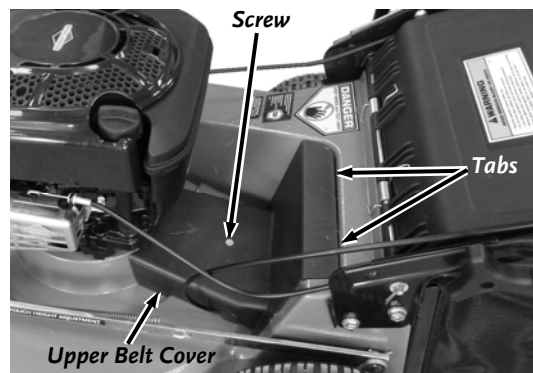

Figure 24
1. Remove the Screw from the upper Belt Cover and remove the Belt Cover (**Figure 24**).